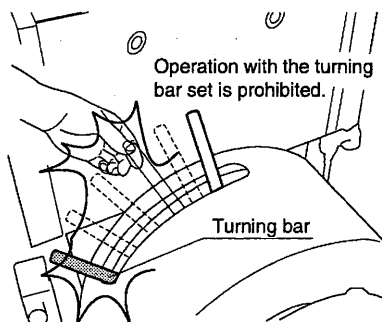

Fig. 2
- * **Do not operate with leaving the turning bar in the flywheel. (Fig. 2)**